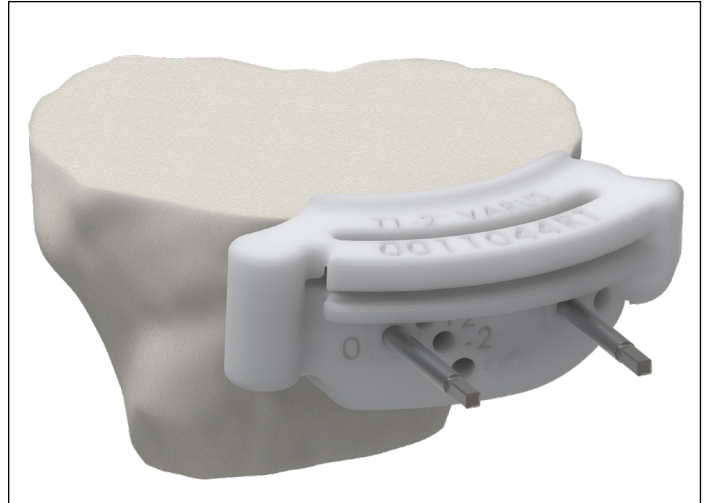

Figure 21. T1VR guide placed over pins at “0” holes
2. If the knee is tight medially in both flexion and extension, use the 2 degree T1VR Varus Adjustment Guide (**Figure 21**). Locate the pin-holes created from the T1 guide and place pins into the same holes. Slide the T1VR guide onto the pins at both “0” pin-hole positions. This tibial varus cut may create varus limb alignment in extension and flexion. Additional 2mm resection depth on plane with the 2 degree varus angle is available by placing the T1VR guide onto pins at both “+2” pin-hole positions.